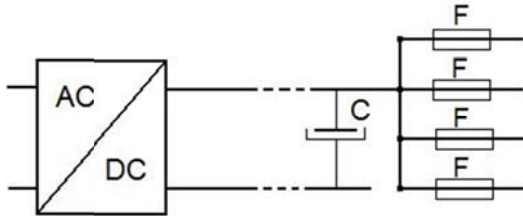

Figure 8. Connecting multiple loads.
4. To reduce the voltage drop at short-circuit and if any branch has more than approximately 30% of the power supply total output current rating, a large external capacitor is recommended. Such a capacitor will supply the peak current needed to blow the fuse, see Figure 8. To calculate the capacitor needed, use the following formula: